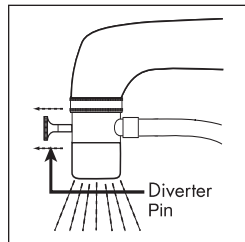

Figure 5
- Position the spout so water will flow into the sink. To run tap water through the system, turn on the cold water faucet and pull the diverter pin, as shown in Figure 5.